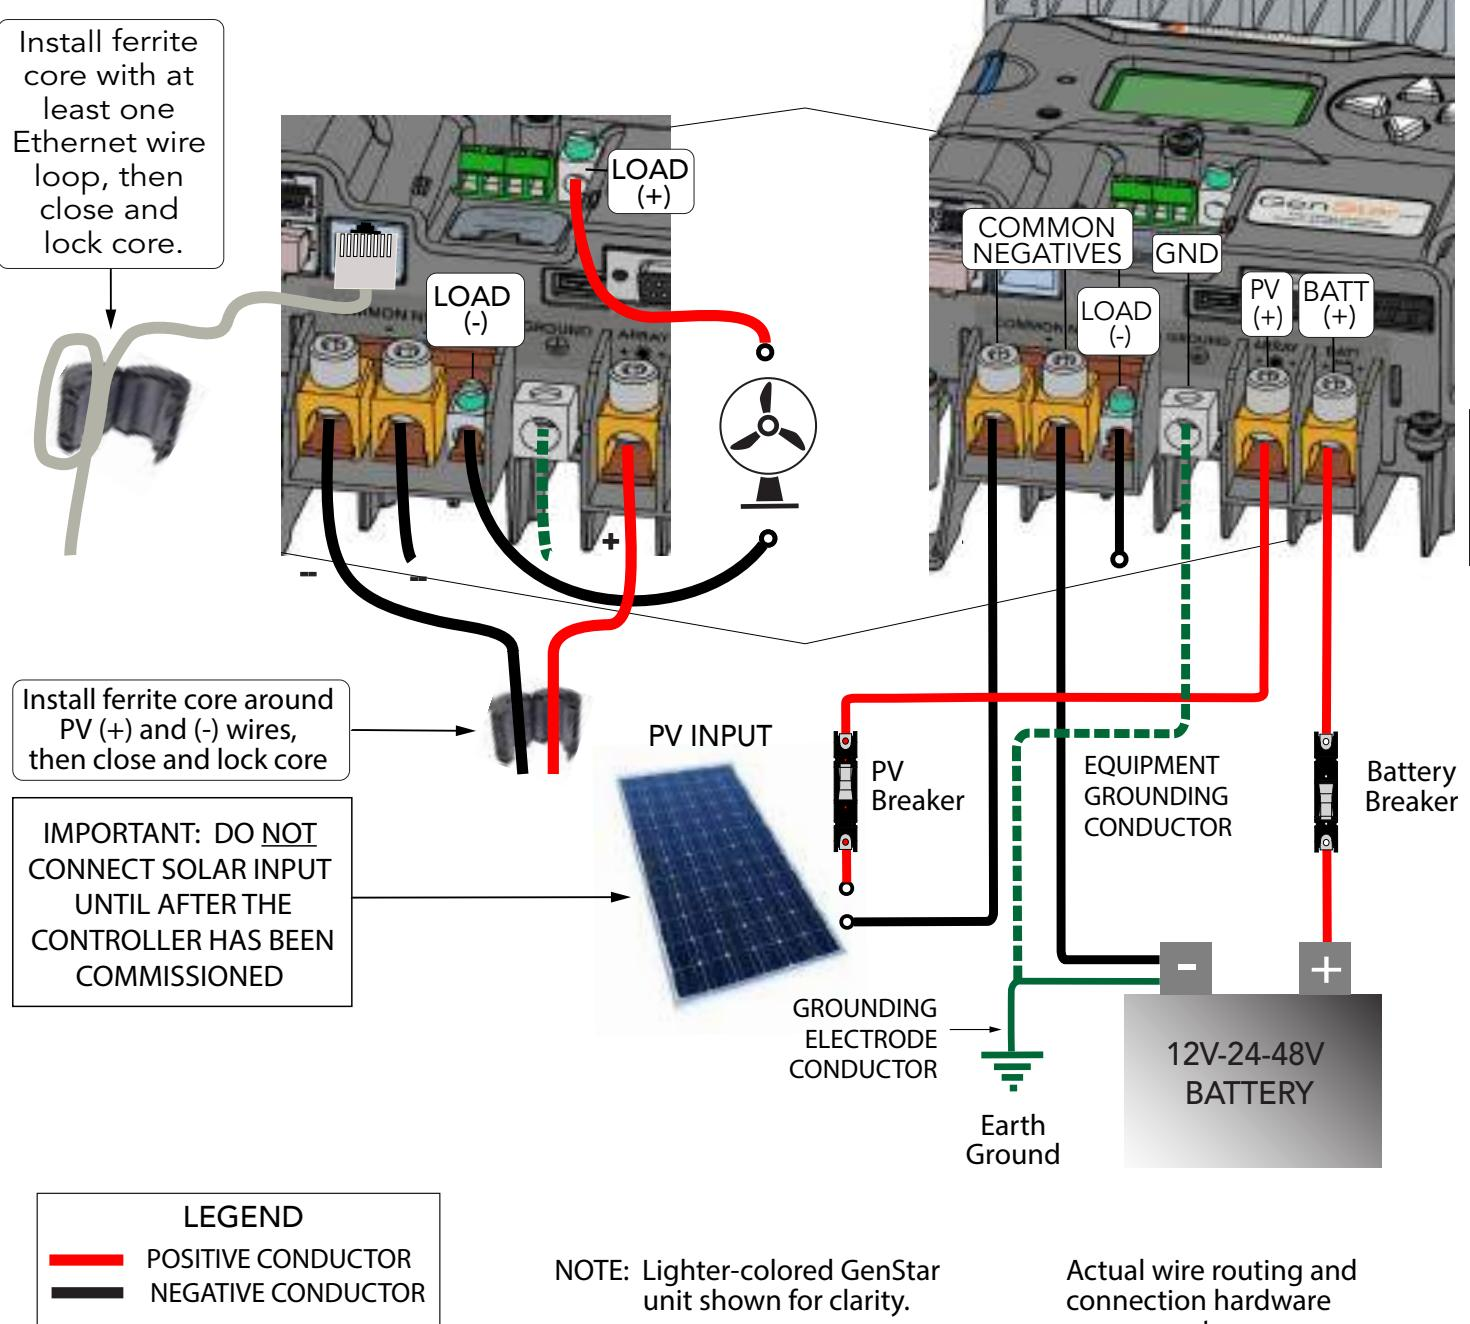

Figure 3-4. GenStar MPPT Power Wiring
Refer to Figure 3-4 above.
For safety and effective lightning protection, it is recommended and may be required by code, that the negative conductor of the charging system be properly grounded (refer to Figure 3-4). Do not connect the negative system wire to the case grounding terminal. The GenStar MPPT does not have internal ground fault protection; but where the NEC requires the use of a ground fault protection device (GFPD), **the system electrical negative must be bonded through a GFPD to earth ground at only one point**.
**Refer to Figure 3-4 above.**
1. Wire the PV array according to NEC Section 690 or applicable local regulations or code. Use caution, since the solar array will produce current whenever it is in sunlight (refer to Figure 3-4 above).
4. Fit and connect a negative wire between the GenStar PV (-) input terminal and the PV (-) busbar or combiner terminal. **DO NOT CONNECT THE ARRAY STRING (-) WIRE(S) TO THE COMBINER BOX AT THIS TIME.** This can be achieved by not connecting the PV (-) MC-4 connectors or the PV (-) wire(s) to the transition box, combiner box or the PV (-) disconnect.
refer to Figure 3-4 in section 3.4.2.